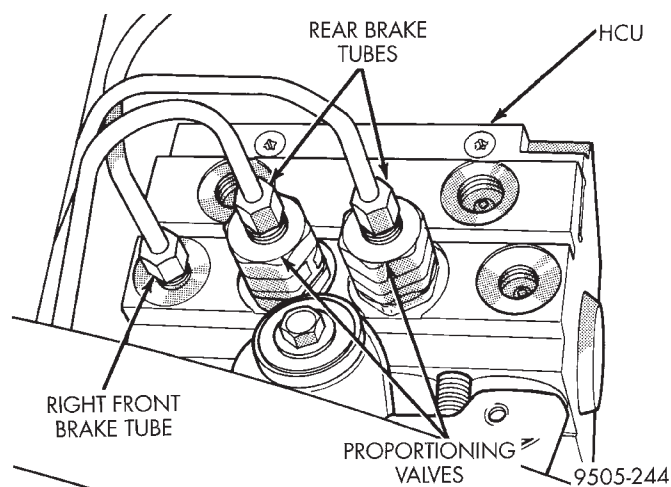
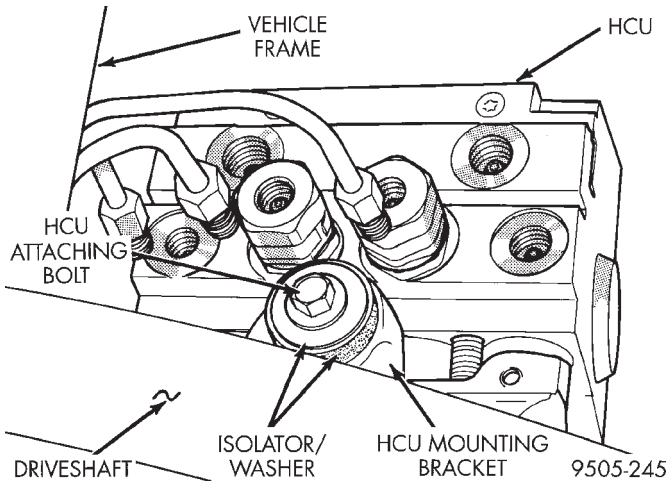

**Fig. 19 Rear Brake Tubes And Right Front Brake Tube At HCU**
**Fig. 20 Front Attachment Of HCU To Mounting Bracket**
(11) Remove the 2 rear brake tubes from the proportioning valves and the right front brake tube from the outlet port of the HCU (Fig. 19).
(12) Remove bolt (Fig. 20) attaching the front of the HCU to its mounting bracket.
(3) Install mounting isolator, washer and attaching bolt, (Fig. 20) mounting the front of the HCU to the mounting bracket. **Do not tighten bolt at this time.**
(4) Then tighten the 3 HCU mounting bolts to a torque of 28 N·m (248 in. lbs.).
(5) Install the 2 rear brake tubes on the proportioning valves and the right front brake tube in the outlet port of the HCU (Fig. 19). Tighten the 3 brake tube nuts to a torque of 20 N·m (180 in. lbs.).